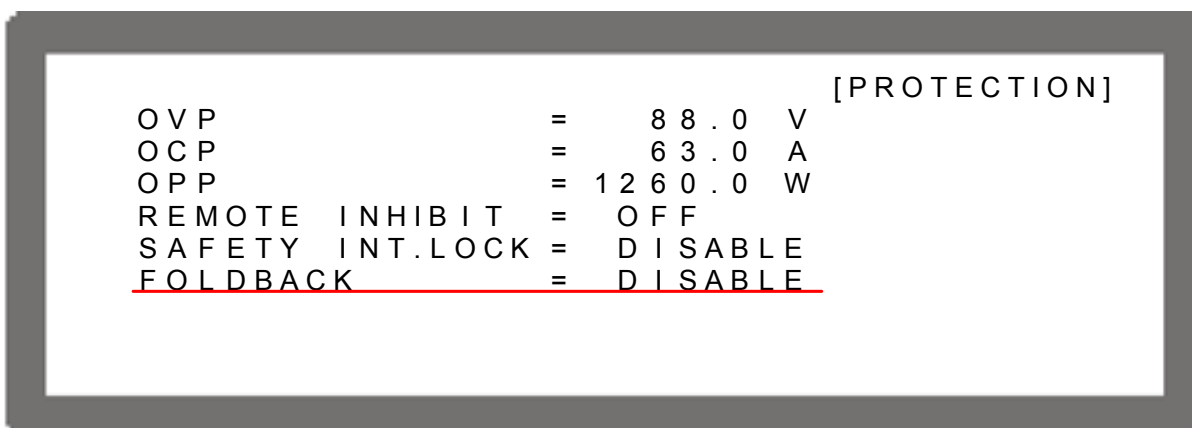

Figure 3-85
1. Use “”, “” keys to move the cursor to the column to be set as Figure 3-85 shows.